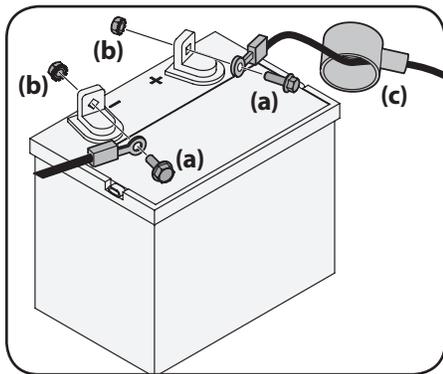

Figure 2-11
1. Remove the plastic cover, if present, from the positive battery terminal and attach the red cable to the positive battery terminal (+) with the bolt (a) and hex nut (b). See Figure 2-11.
2. Remove the plastic cover, if present, from the negative battery terminal and attach the black cable to the negative battery terminal (-) with the bolt (a) and hex nut (b). See Figure 2-11.